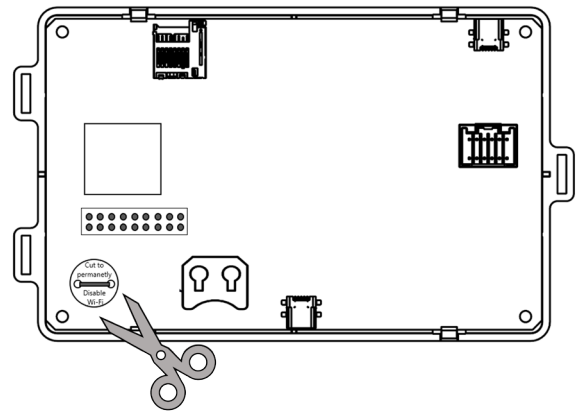

Figure 111. Cut to Disable Wi-Fi
4. Use Wire cutters to cut the Wire jumper labeled as "Cut to permanently disable Wi-Fi". See **Figure 111**.